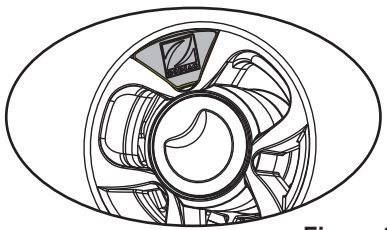

Figure 8
4. Locate the yellow wheel speed indicator on the rear right wheel (Figure 8).